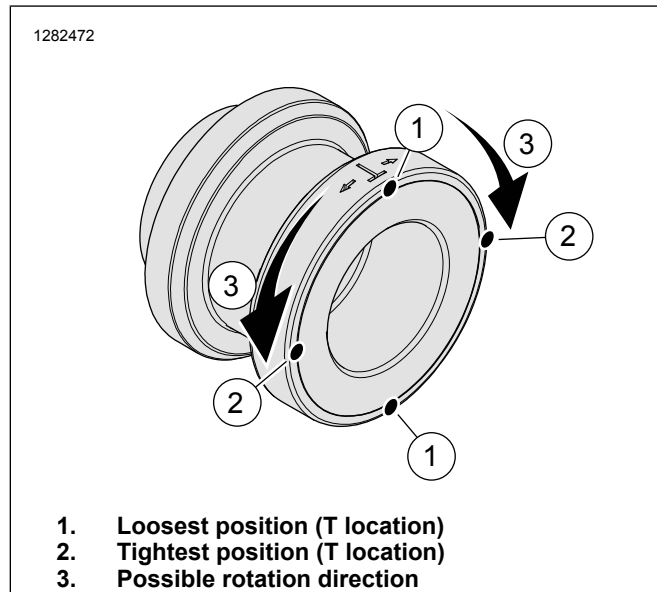

Figure 6. Docking Point Flats
- a. See Figure 6. To adjust, rotate (3) in small increments so the "T" (1) is no longer on top and approaches either position (2).
- c. Continue rotation in small increments and test until desired tightness is achieved. The tightest possible position is when the "T"s reach position (2).
3. See Figure 6. If "T"s are not in tightest position (2), rotate docking points slightly, moving "T"s toward (2) until a tight fit of the detachable accessory is achieved at each location.